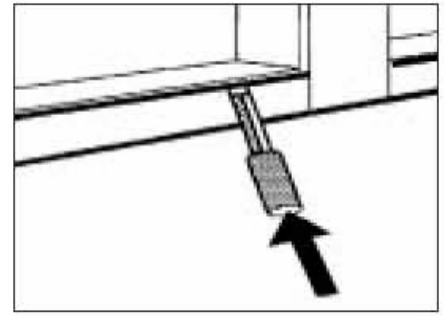

Fig.2
1. Place frame into opening in the panel. Clamp top of frame. Check horizontal alignment with a level (1), then fasten bottom of frame with mounting screws.
2. Use spacer at the upper horizontal to prevent distortion of frame (Fig 2). Attention! Make sure that the gap is filled, to keep the profile from bending out. Surface "A" and "B" must be keep at 90°.
4. Check vertical and horizontal sides with a level (4). Fasten the side profiles and the upper vertical with mounting screws. Any gaps between the frame and cooler/freezer wall needs to be insulated with sealant to prevent air leaks.
2. Refer to Fig. 2 for heater wire location. Remove the heater from the door rail, and cut the leads at the hinge pin power connection.
2. To install a gasket, insert the lip around the inner edge of the gasket into the groove in the plastic on the back of the door (B), then press the dart on the back of the gasket into the plastic on the back of the door (C) (Fig. 2).
2. Remove the plastic profiles covering the defective heater by first removing the horizontal pieces, then the vertical pieces. Use a screwdriver to carefully release the profiles (Fig. 2). **Caution:** Do not damage the plastic during removal.